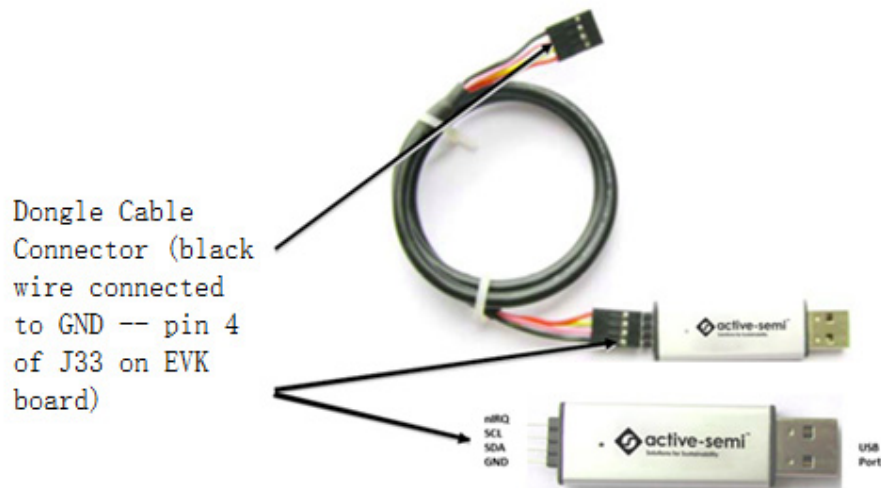

Figure 4 – USB-TO-I2C Dongle Connection
3. Connect the USB-TO-I2C dongle to the EVK J33 connector (notice that nIRQ pin of dongle is not connected). Refer to Figure 4 to ensure the correct polarity of the connection. As a guide, use the “Qorvo” logo (or “Active-Semi” logo) on the top of the dongle so the black wire is connected to the Dongle GND pin.